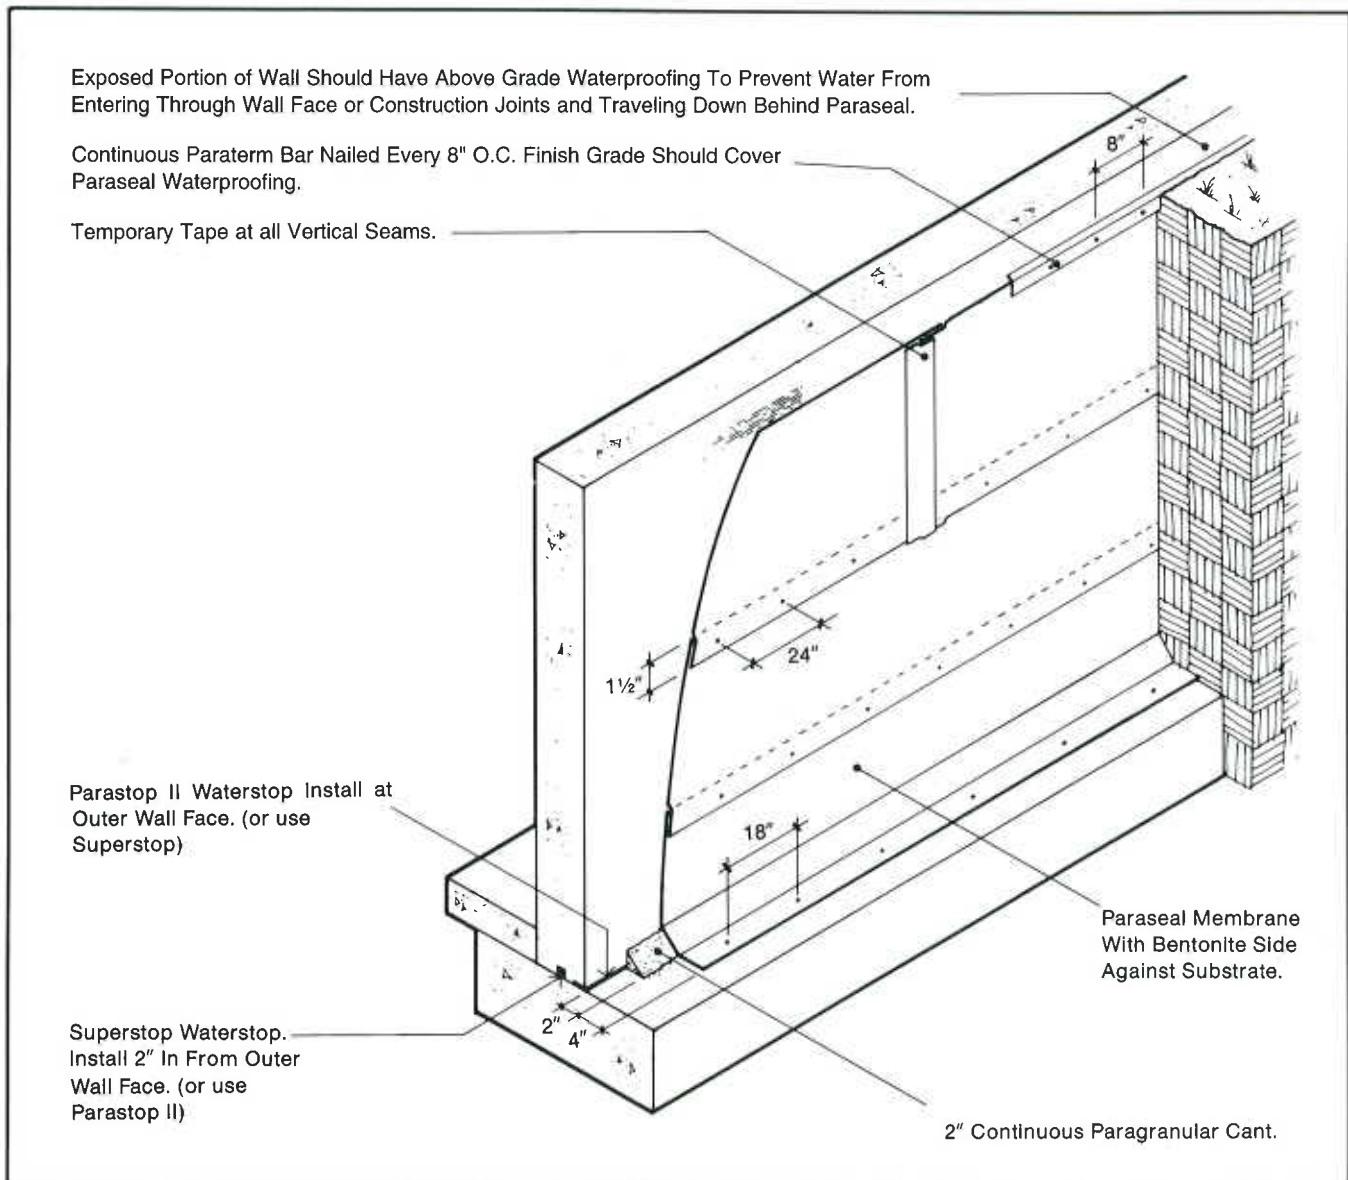

**FIGURE 2:** Paraseal Installation.
10. Install a continuous 2" cant of Paragranular where wall meets footing. (See Figures 2 and 3).
12. Paraseal is installed against backfilled walls with the granular bentonite side against the substrate and the black HDPE side facing the installer. (See Figures 2, 3 and 4)
13. Paraseal may be installed with seams running either vertically, horizontally or a combination with equal performance. (See Figure 2 and 3).
14. Paraseal seams in this section (except those in close clearance installations-Figure 4) shall be nailed at 24" O.C. Installations with vertically running seams (Figure 2) shall be nailed at 24"-48" O.C. and taped with Paramount Temporary Tape.